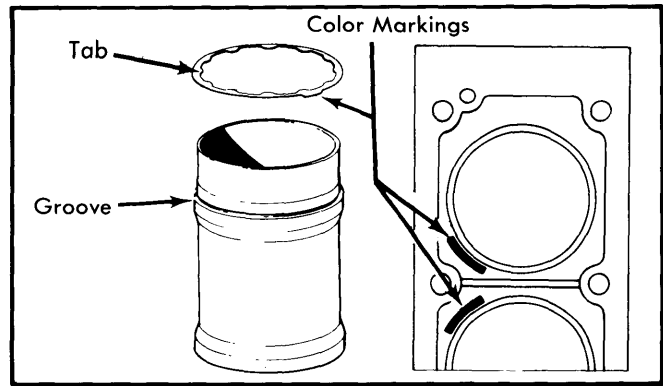

Fig. 9 Positioning Shims on Liners
① — Use same thickness shims for all liners.
5) Install shims with color marking up and positioned as shown in Fig. 9. Inner tabs on shims should be in liner groove.